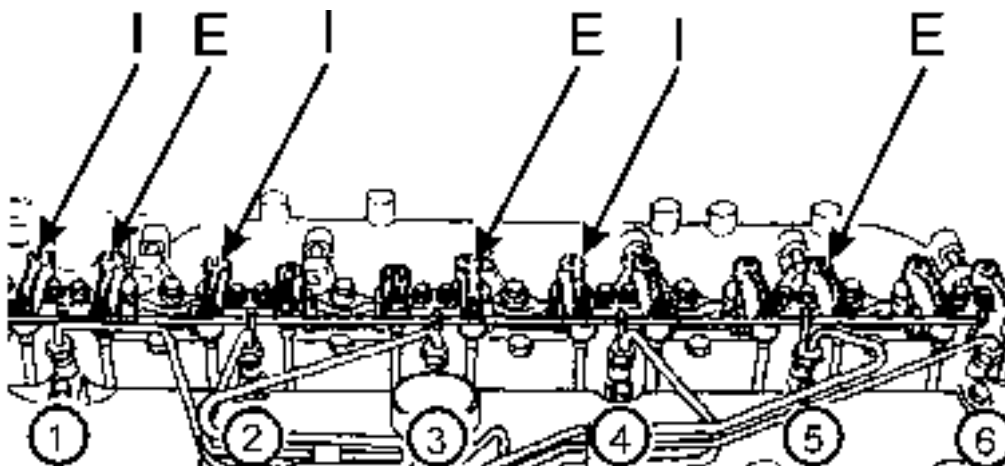

Fig. 5.18. Engine Valves (Step 1)
5. Check and adjust (step 1), if necessary, the valve lash as shown in Fig. 5.18. Use a screw driver, a wrench and a filler gauge. The value of the valve lash should be as follows:
- Intake valve (I): 0.30 [mm],
- Exhaust valve (E): 0.61 [mm].